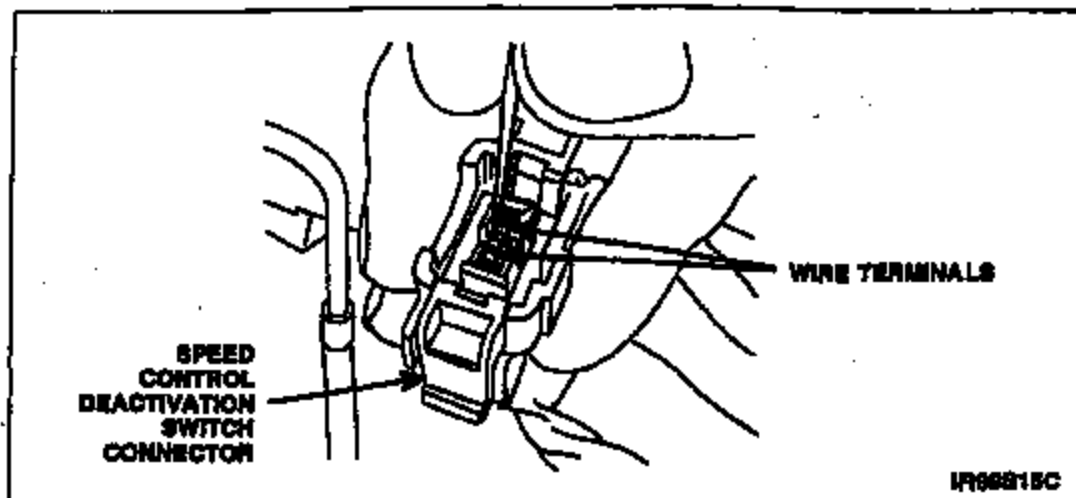

FIGURE 3
4. Remove the locking wedge from the end of the connector. Then, disengage the locking tabs and remove the wire terminals from the connector. See Figure 3.